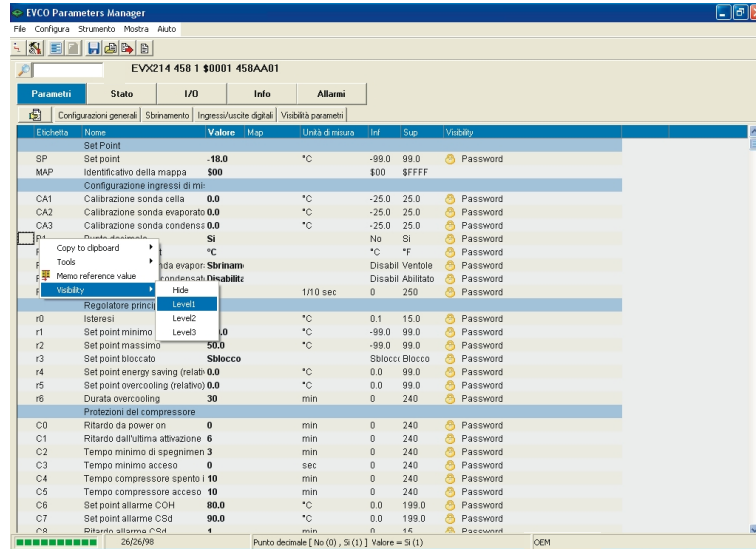

Fig. 16 - Parameters access level modification screen.
2. Use the right key on the mouse to click on the parameter line and then select a value from the quick choice menu **Visibility** (see Fig. 16).